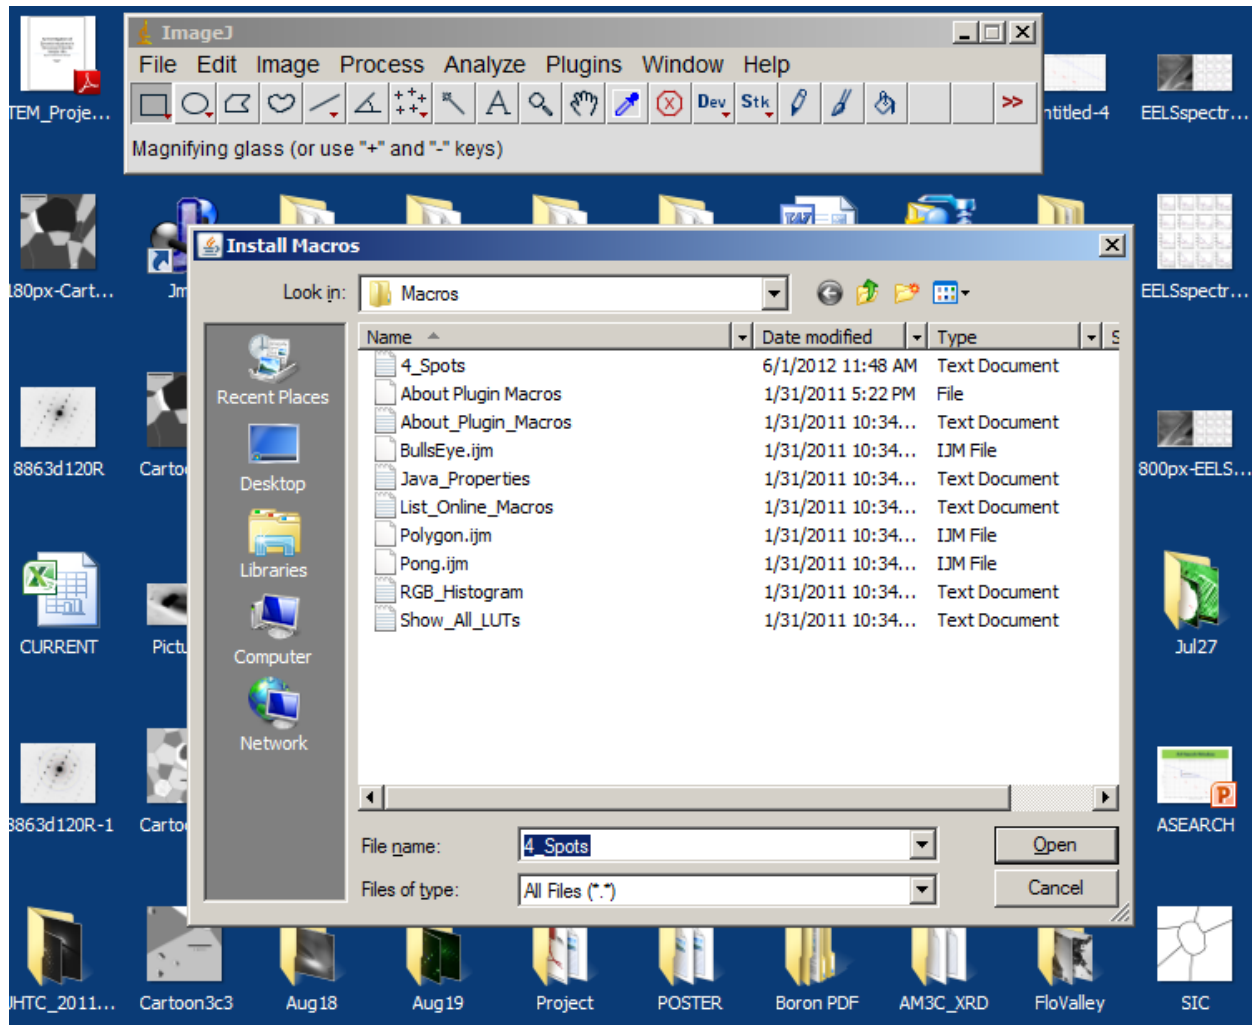

Figure 1: ImageJ Macro Installation Window
3. Now, open ImageJ and press Ctrl+Shift+M and the ImageJ macros installer window will open. Navigate to the plugins\Macros directory and click the file 4_Spots. Txt. Then click open to complete the installation. Figure 1 shows what you should see after pressing Ctrl+Shift+M.